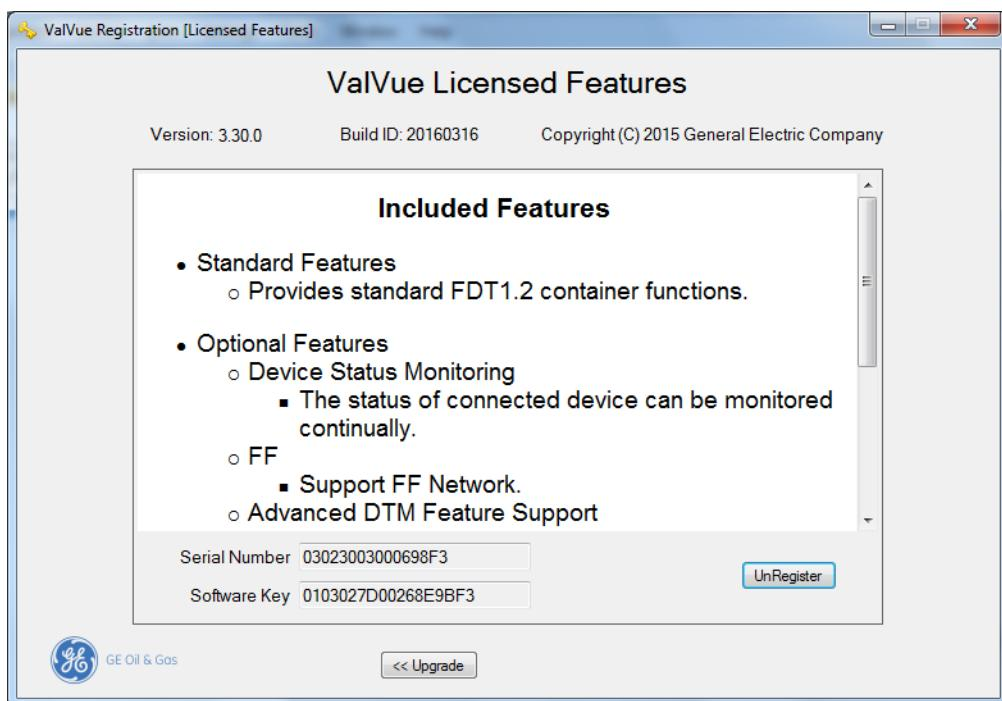

Figure 6 Included Features
2. Click  and Figure 6 appears.